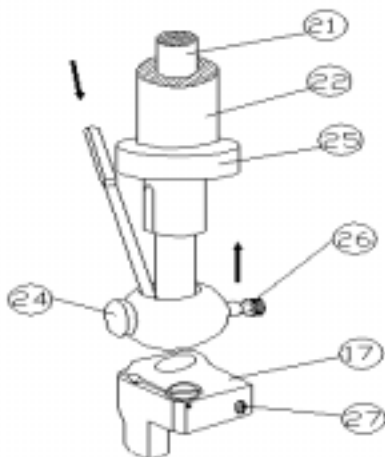

FIG.8
Next re-mount the clamp (24) of the needle and the fabric clip (17) on their respective bars, inserting the double-hooked needle through the upper part of the clamp, as illustrated in FIG. 8. Make sure that the clamping surface on the tang of the needle is on the left of the machine and that upper end of the needle touches the stop collar (25). Tighten the screw (26). Pull the inner rod all the way up, adjusting the fabric clip so that it rests simultaneously against the clamp and the shoulder of the inner rod, and then tighten the screw (27). When these operations have been completed raise the inner rod and check that nothing impedes its movement so that the tip of the needle does not move. Turn the hand-wheel until the clamp of the needle bar (20) reaches its U.D.C. (Upper Dead Center). At this point adjust the height of the needle bar so that there is a distance of 16mm between the tip of the needle and the throat plate. Tighten the clamp of the guide (20), be careful not to deform the inner part of the needle bar. When making these adjustments, it is recommended that the needle bar be turned slightly to the left. With the needle bar at the L.D.C. (Lower Dead Center), line up the reference notch (31) on the arm, then lock the hand-wheel. FIG. 10.